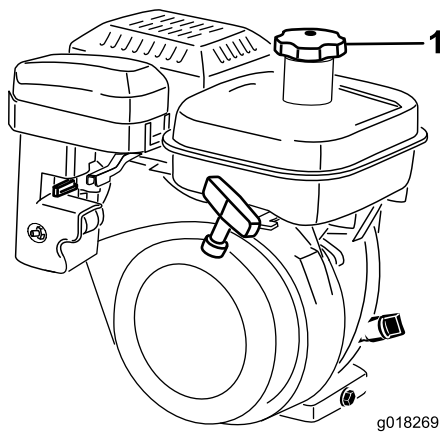

Figure 25
1. Clean around the fuel-tank cap and remove the cap from the tank (Figure 25). Fill the fuel tank no higher than to the bottom of the filter screen. Do not overfill.